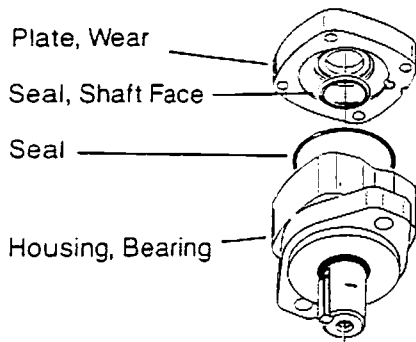

figure 9
- 20 Remove the 3 in. [76mm] seal from the bearing housing, see figure 9.